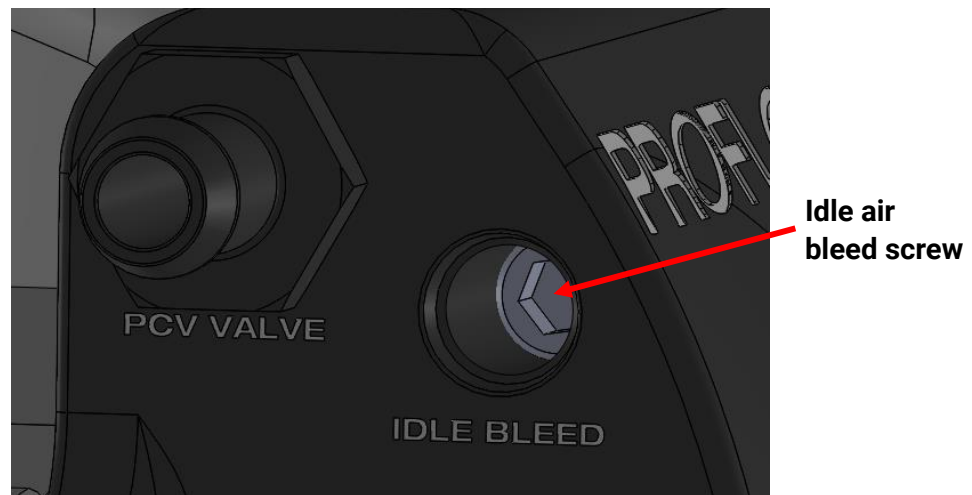

Figure 4: Idle air bleed screw
2. If idle is low or rough, adjust the idle bleed screw (figure 4). Screwing the idle air screw clockwise will decrease idle RPM. Unscrewing the idle air screw will increase idle RPM (detailed instructions on next page).